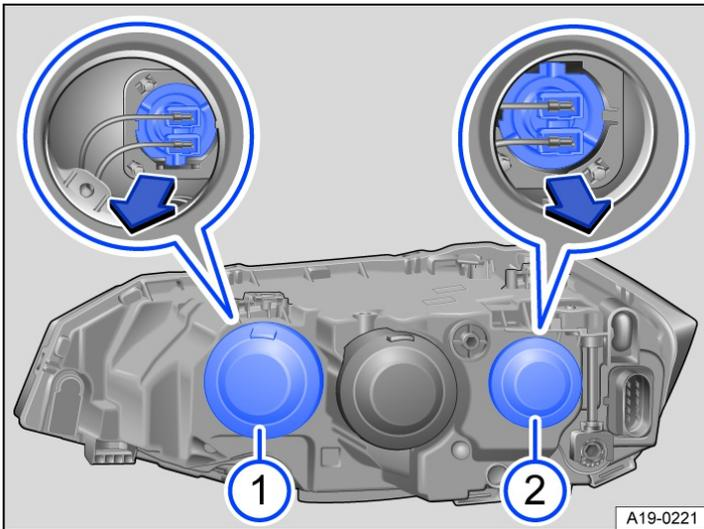

Fig. 1 In the engine compartment: rear view of right-hand headlight.
2. Pull the rubber cover *→ Fig. 1* **1** from the rear of the headlight.